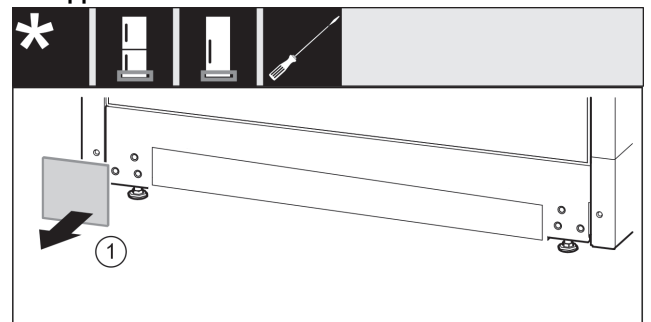

Fig. 13
- ▶ Remove the cover. Fig. 13 (1)